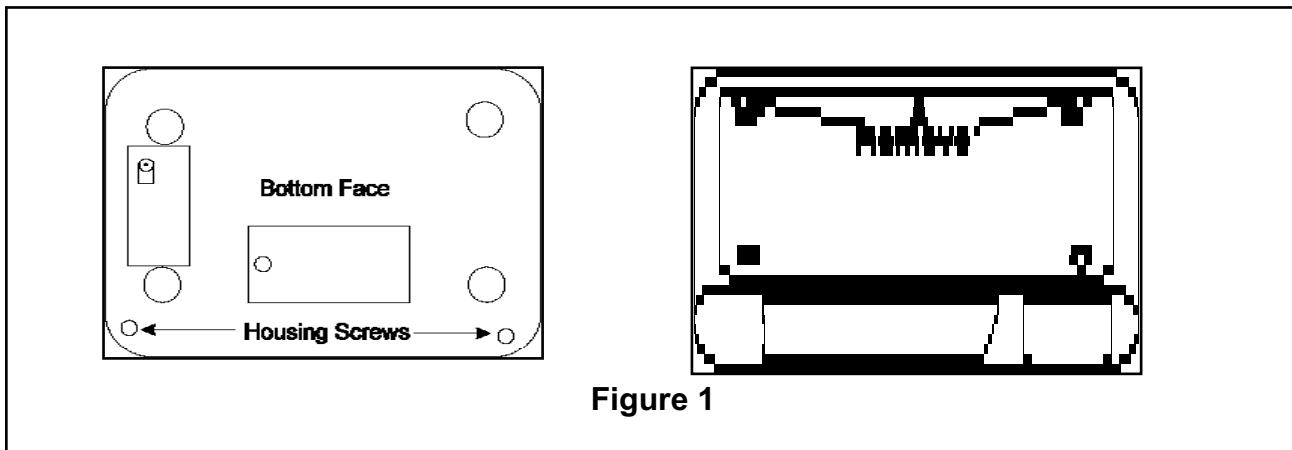

Figure 1
- 3) Remove the five upper housing screws: three from the top and two from the bottom (Figure 1).